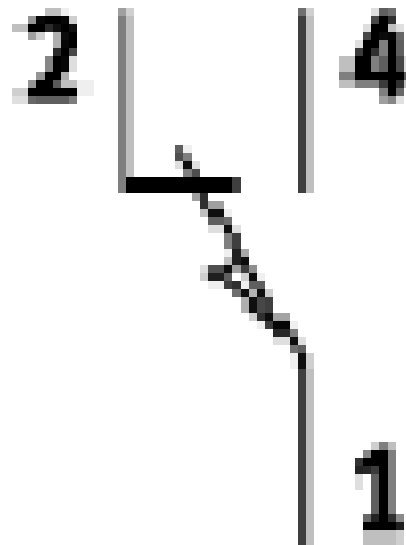

Figure 2.10: An Electronic (Inductive) Proximity Sensor and its Symbol.
- **Symbol:** The general symbol for a proximity sensor is a diamond shape, as seen in Figure 2.10.